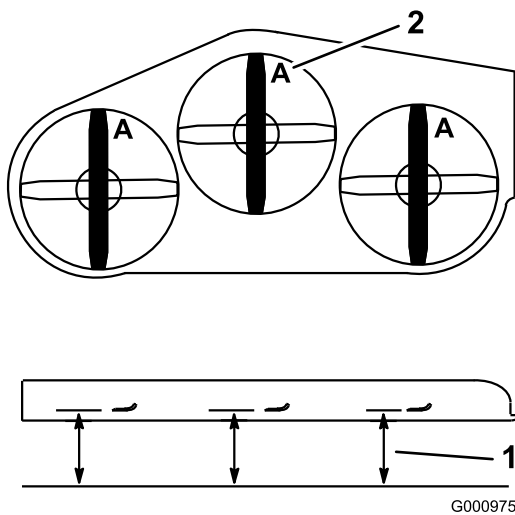
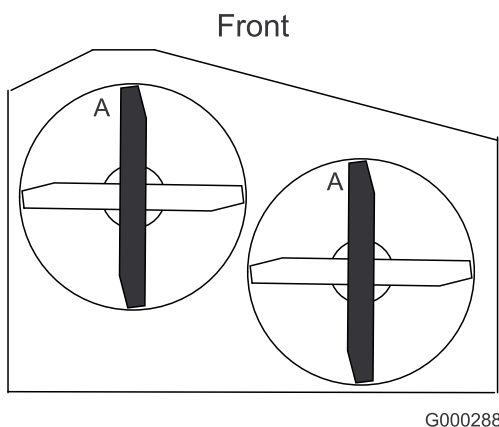

Figure 63
Figure 64
3. Rotate the blades until the ends face forward and backward. Measure from a level surface to the cutting edge, position **A**, of the blades (Figure 63). Note this dimension. For 36 inch mower decks use Figure 64.